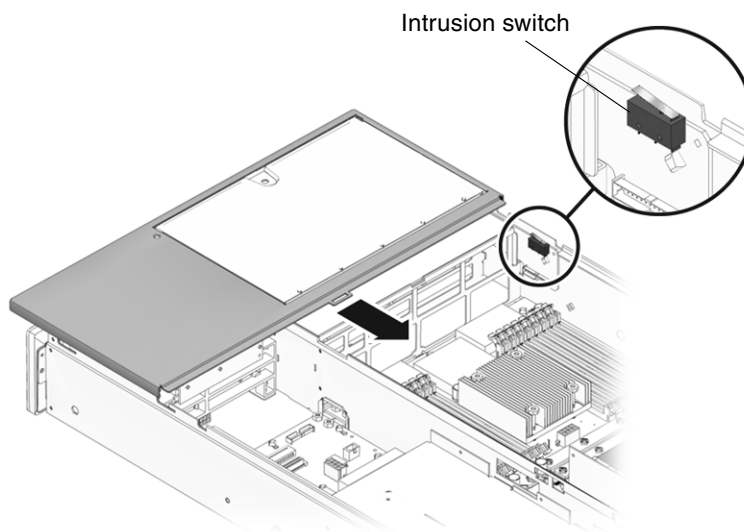

FIGURE 5-29 Replacing the Top Front Cover
2. Slide the front top cover forward until it snaps into place, being careful to avoid catching the cover on the intrusion switch (FIGURE 5-29).